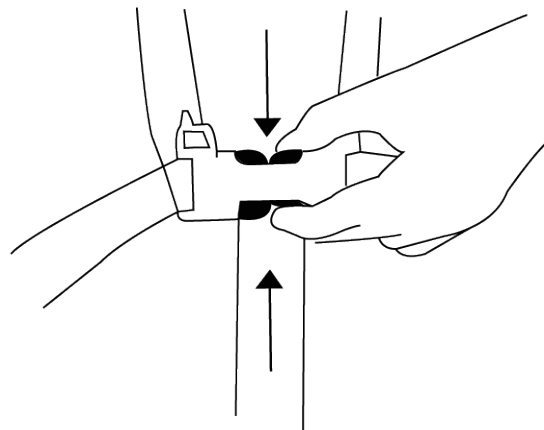

Fig. 16
15. To release, apply pressure to both sides of locked clips until clip releases. See (Fig. 16). This might need a considerable amount of effort to release as this harness is to prevent an accidental release by your child.